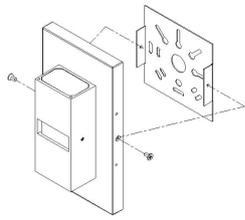

FIG. 1
Step1: Loosen the screws beside the lens and take down the base plate (FIG.1)